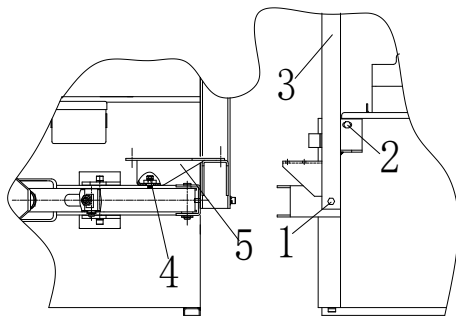
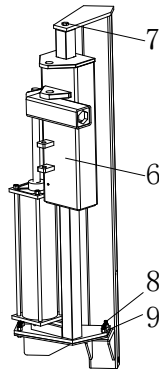

Fig 10
Fig 11
- 2) Install the column 3 with screw 1 and 2; install the support 5 of the auxiliary arm with screw 4; (Fig 10)
- 3) Install the help arm 6 with nut 7 and screw 9, then tighten 4、7、8、9 (Fig 10、Fig 11) ;